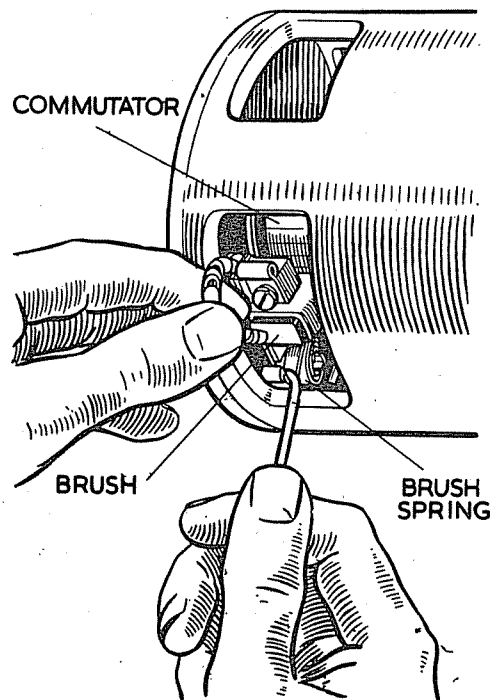

Fig. 10—Checking Brush Gear.
- (7) Remove the cover band and examine the brushes and commutator. Hold back each of the brush springs and move the brush by pulling gently on its flexible connector, See Figure 10. If the movement is sluggish, remove the brush from its holder and ease the sides